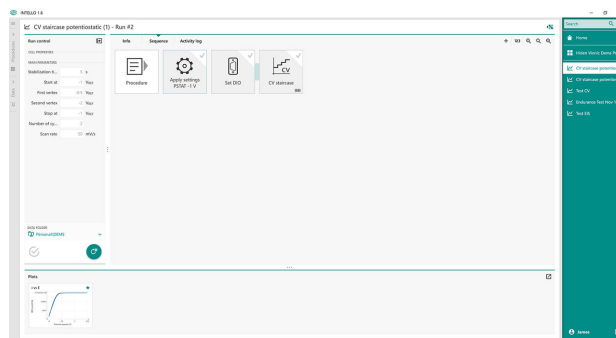

Figure 3. End-state of the instrument in INTELLO.
Automatic current ranging should also be disabled in order to ensure that the current passed to the Hiden software is correct. Using a trigger cable, INTELLO is able to trigger the mass spectrometer to begin scanning. The Hiden software utilizes a falling edge trigger. The initial/end state of the DIO port on the potentiostat (Figure 3) prior to the measurement should therefore be set to high (1). Pin 5 is used for this.